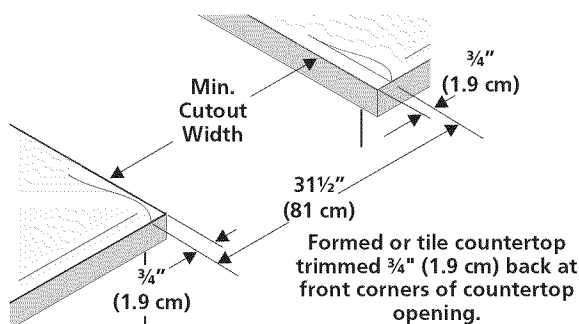

Figure 1
- **Formed front-edged countertops** must have molded edge shaved flat  $\frac{3}{4}$ " (1.9 cm) from each front corner of opening (Figure 1).
- **Tile countertops** may need trim cut back  $\frac{3}{4}$ " (1.9 cm) from each front corner and/or rounded edge flattened (Figure 1).